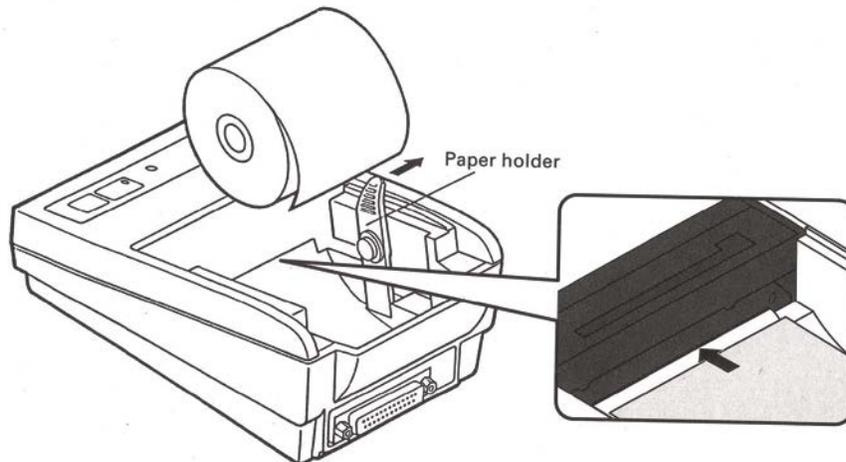

Figure 3. Loading the paper roll
6. Insert the end of the paper into the slot at the rear of the printing mechanism (see Figure 3) and press the **LF** button until approximately 5 or 6 cm of paper feeds through the mechanism.
7. Pull the black paper holder outward and insert the paper roll (see Figure 3)